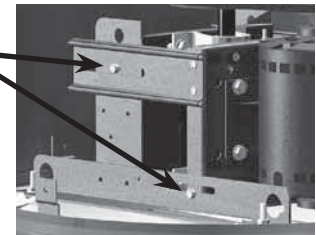

Figure 12
10. For all XRUBS units, belt tension can be adjusted by loosening four fasteners on the drive frame, see Figure 12. The motor plate slides on the slotted adjusting arms and drive frame angles in the same manner.
Belts too tight or too loose	Adjust tension, see Figure 12 and 13.